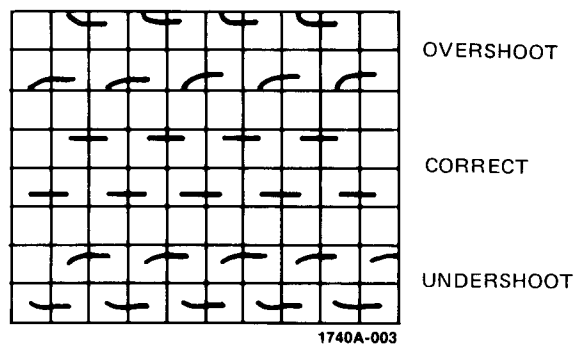

Figure 3-2. Probe Compensation
- d. If overshoot or undershoot is present, turn screwdriver adjustment in probe for a flat-top presentation (see figure 3-2).